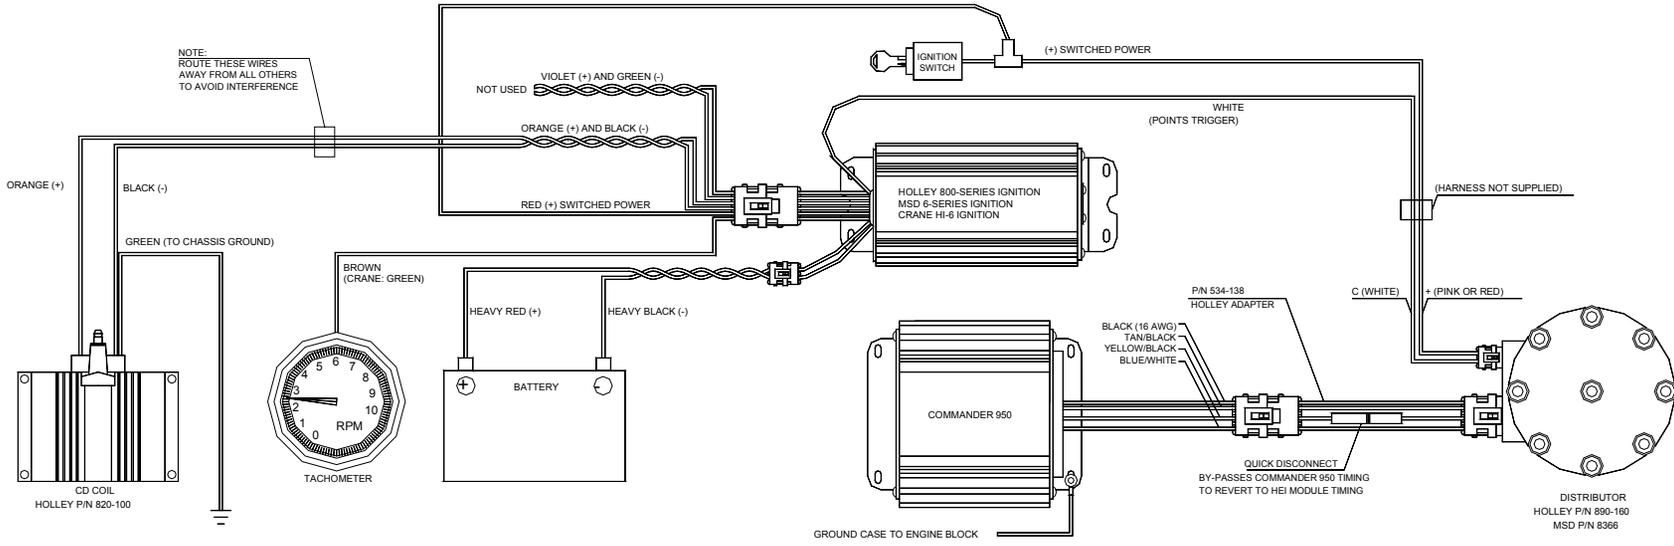

Figure 81
- Figure 81:** Commander 950 PRO to Aftermarket Ignition Using a GM 7-Pin Style Distributor and External Coil.